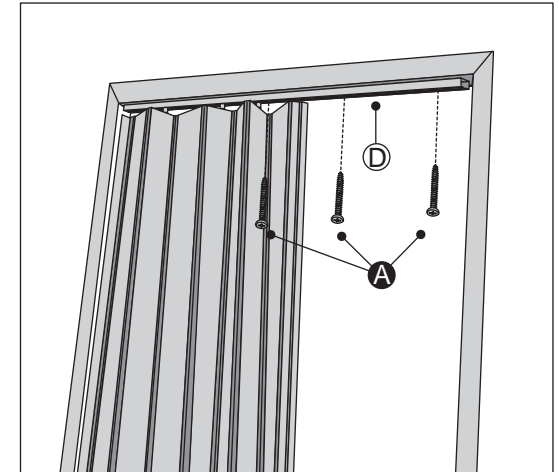

fig. 11
4. Swing the Top Track ① back so it is parallel with the door frame. Use Screws ② to fix the Top Track.
**See fig. 11.**